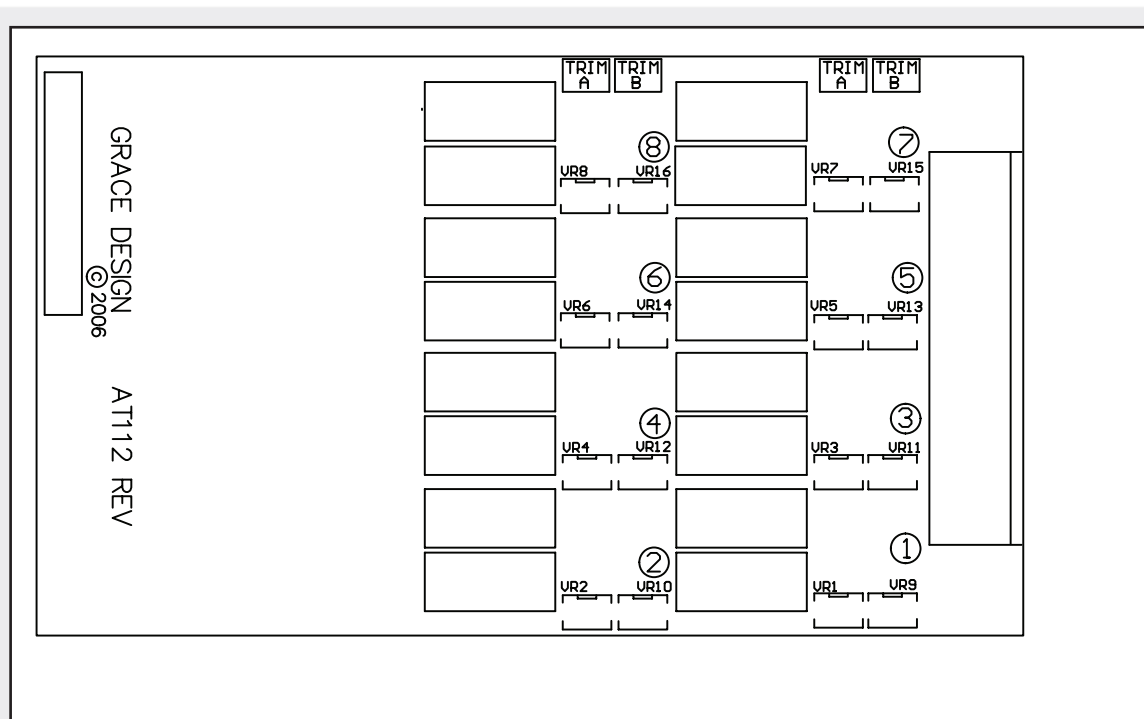

figure 7 / A/D trim locations
4. Using a non conductive tweaker tool, adjust the trim control corresponding to the current channel and sensitivity range (A) or (B). Each channel is labeled on the A/D converter analog input card (**see figure 7 below**). Trim (A) and trim (B) are also labeled. While adjusting the trim control, monitor the digital output on your recording device. Turn the trim until the digital level matches the desired headroom level. That is the level you will be adjusting to will be the desired headroom in decibels below full scale. For example if you have selected +20dBu = 0dBFS (16dB Headroom) for sensitivity (A), turn the trim (A) potentiometer until your digital meters read -16dBFS. If you have selected +24dBu = 0dBFS (20dB Headroom) for sensitivity (B), turn the trim (B) potentiometer until your digital meters read -20dBFS.